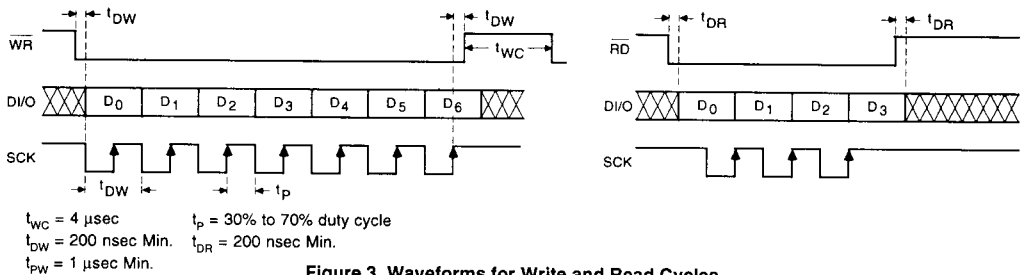

Figure 3. Waveforms for Write and Read Cycles
2. Information from the modem IC. Data is read serially from the modem when \overline{RD} is low, on rising edges of the SCK clock. (See Figure 3 for read cycle waveforms). Up to 4 data bits (D0-D3) can be read as defined below:
are shifted by repeating the above procedure. Only 7 data bits should be sent. If an 8th data bit is sent, the first data bit D0 will be lost from the input register. The received data will then be D7-D1 rather than D6-D0. To read data from the SC11015 (see timing waveforms of Figure 3), the RD line is first made low. The least significant bit D0 is now available on the DI/O line. The SCK line is toggled low and then high to shift the next data bit out of the SC11015 output register. The SC11015 shifts the data out on the rising edges of SCK. The controller should read data on the falling edges of SCK when it will be stable. Note that D0 appears on the DI/O line as soon as RD is taken low. If the controller only wants to read the status of the energy detector, there is no need to toggle SCK line. By making RD low, the energy detector level can be read by reading DI/O. RD can then be taken